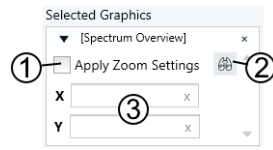

Figure 4-123: Zoom-settings box
5. Enter the "X" and "Y" parameters (3 in Figure 4-123) with a syntax as in Table 4-13. R&S ELEKTRA automatically applies the correct units from the chart.
Note: For spherical or cylindrical charts, you can select a predefined camera direction from a list. To open this list, click the "Select View" button (2 in Figure 4-123). For the view that you select, R&S ELEKTRA automatically enters the correct "X" and "Y" parameters.